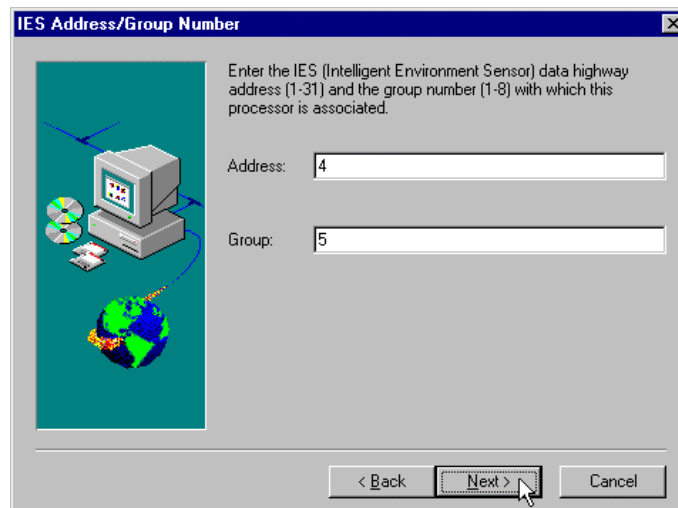

Figure 40 – IES Address/Group Number dialog box
- ❖ Click **NEXT** to continue installation. See Figure 40 for details.